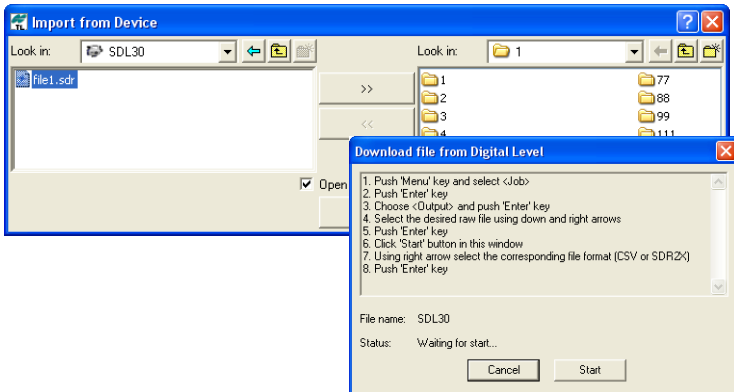

Figure 4-11. Import File from Sokkia Digital Level
7. Follow all steps listed in the Download file from the *Digital Level* dialog box (Figure 4-11 on page 4-15) to select a file and begin the import. These steps may vary depending on the connected device.